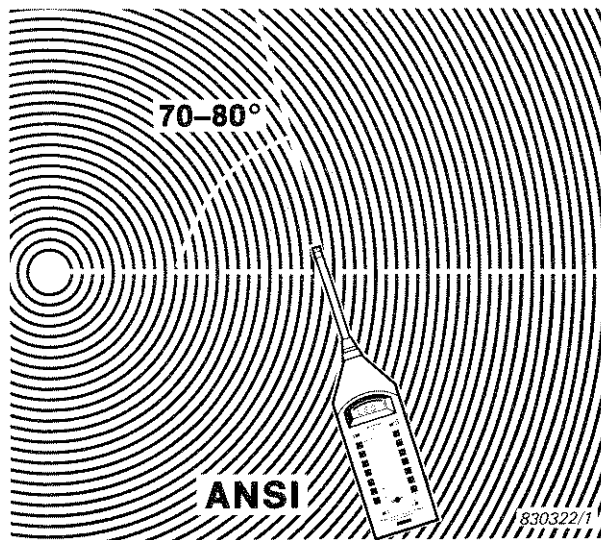

Fig. 2.13. Free-field measurements according to ANSI recommendations
- Under ideal free-field conditions optimum response is obtained by orienting the Sound Level Meter as shown in Fig. 2.13.